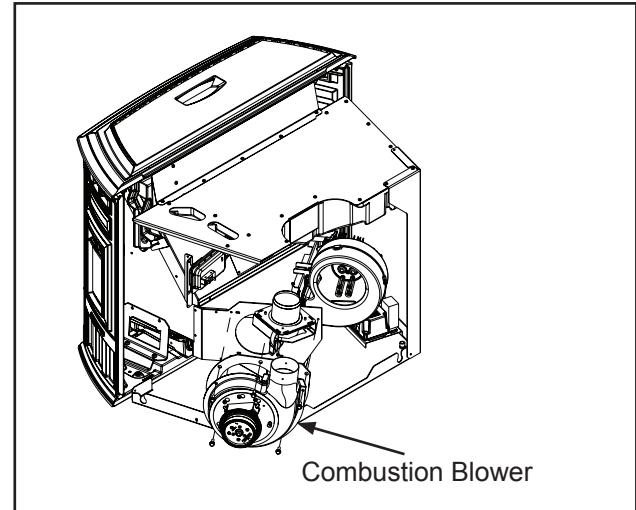

Figure 38.3
1. The combustion blower is mounted in the bottom right rear of the appliance. **Figure 38.3.**